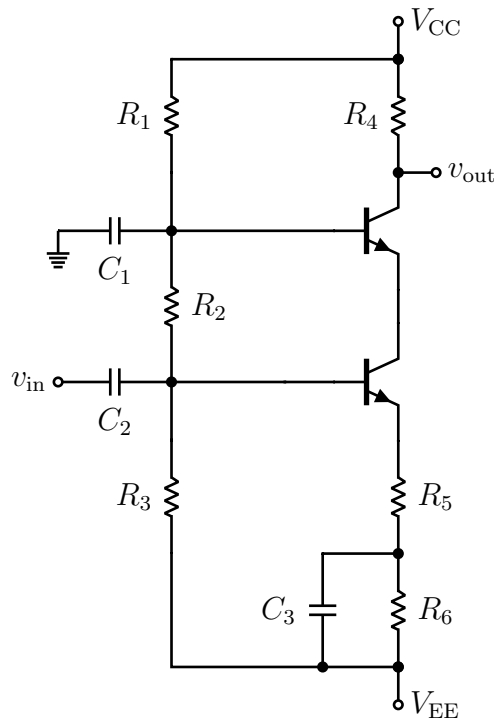

Figure 4: RF amplifier featuring a cascode and an emitter-resistor bypass capacitor.
In this section you are going to build the RF amplifier circuit shown in Fig. 4. I suggest you build this in stages: (1) build only the DC-biasing voltage divider ( $R_1$ ,  $R_2$ , and  $R_3$ ) and check that DC bias points, (2) connect the transistors and the resistors ( $R_4$ ,  $R_5$ ,  $R_6$ ) and the capacitor  $C_3$ , check the DC bias points, and confirm there is a diode drop across the base and emitter at each transistor, (3) connect the capacitors  $C_1$  and  $C_2$ .
Now build and test a second copy of the circuit in Fig. 4.